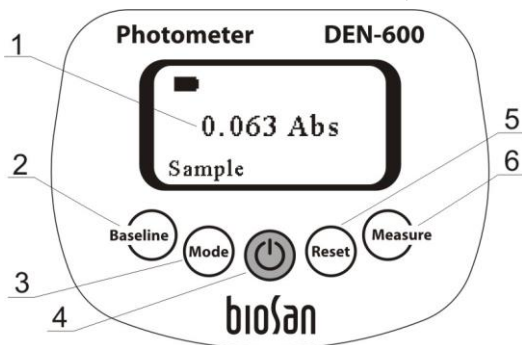
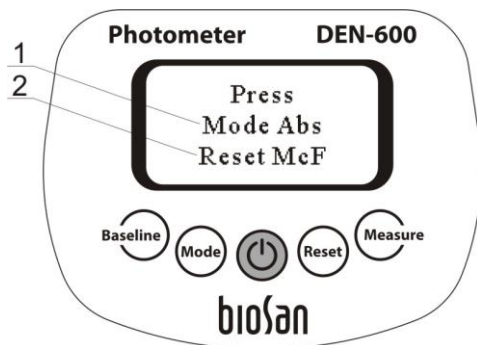

Figure 1. Control panel
Figure 2. Measurement mode selection
- 5.1. Connect the external power supply to electric circuit. Switch on the unit using the green **Power** key (fig. 1/4) on the control panel.
- 5.2. The following indication may be shown on the display (fig. 1/1):
- Two measurement modes for operation are available – McFarland (McF) and Abs (Absorbance) see Figure 2 and **5.3**.
- 5.3. **Measurement mode selection (Figure 2).** Select measurement units by pressing **Reset** key for McF (fig. 1/5) and **Mode** key for Abs (fig. 1/3).
- 5.4. **Baseline calibration.** Unit requires initial baseline (only in Abs mode), e.g. depending on the reaction vessel or suspension colour. Insert the reaction vessel with or without suspension into the unit and press the **Baseline** key (fig. 1/2).
- 5.5. **Choosing mode of operation.** Press the **Mode** key (fig. 1/3) to circle through available operation modes, **Sample**, **Save** and **Read**.
- 5.5.1. **Sample** mode - measurement without saving the results. Place the sample in the unit and press the **Measure** key (fig. 1/6). Display shows the measurement result.